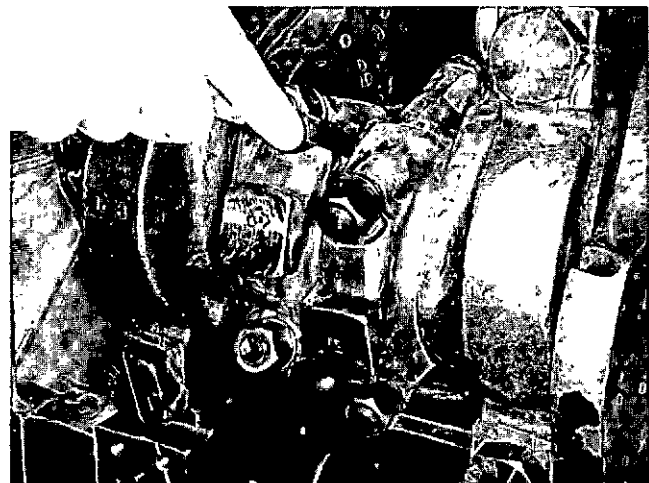

Fig. 14-1-22, V414219. Checking rod side clearance
11. Check for clearance of 0.006 to 0.013 inch [0.1524 to 0.3302 mm] between rod assemblies located on same journal. Fig. 14-1-22. Rods should move freely sideways with hand pressure. Also check position of rod on piston pin and make sure there is visible clearance between rod and piston boss. This is extremely important to prevent scoring or seizing of piston and liner.
14. Check for clearance of 0.006 to 0.013 inch [0.1524 to 0.3302 mm] between rod assemblies located on same journal. Fig. 14-1-22. Rods should move freely sideways with hand pressure. Also check position of rod on piston pin and make sure there is visible clearance between rod and piston boss. This is extremely important to prevent scoring or seizing of piston and liner.